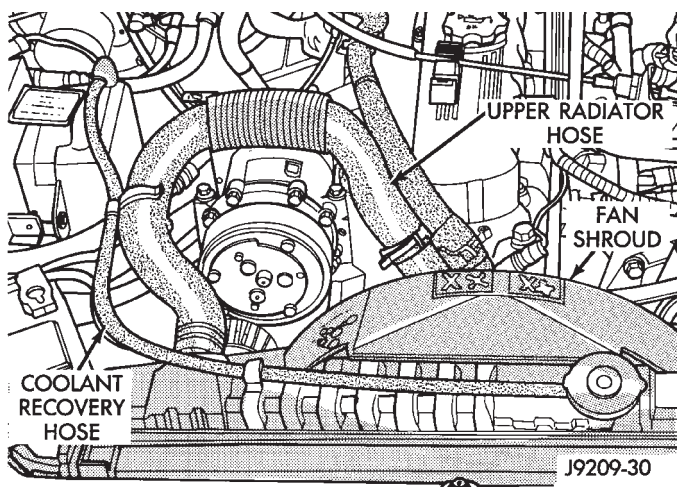

Fig. 27 Upper Radiator Hose, Coolant Recovery Hose & Fan Shroud
(3) Loosen the radiator drain cock and radiator cap to drain the coolant. DO NOT waste usable coolant. If the solution is clean, drain the coolant into a clean container for reuse.
(4) Remove the air cleaner assembly.
(5) Remove the lower radiator hose.
(6) Remove the upper radiator hose and coolant recovery hose (Fig. 27).
(7) Remove the fan shroud (Fig. 27).